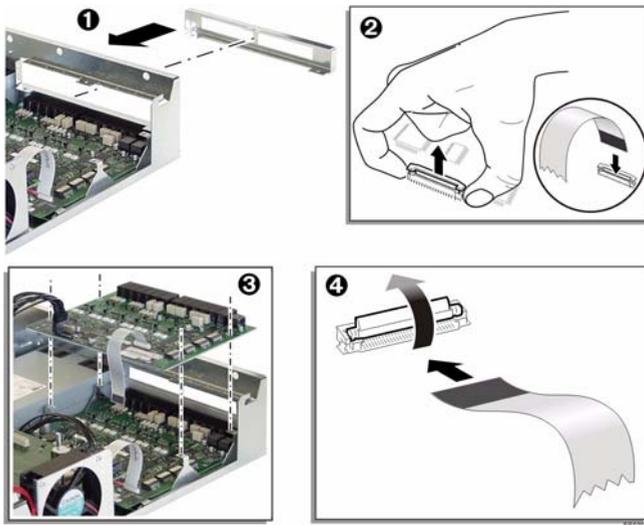

Figure 12: Screws and Standoffs on the Analog Option Board
4. Insert the replacement faceplate into the back of the controller and attach it with screws (1).
6. Attach the flex and power cables. To attach the flex cable, lift up on the tabs at the end of the connector to loosen it, insert the cable label side down, and then press down on the tabs to tighten connector (2).
7. Lower the AOB into place and attach it with the supplied screws (3).
8. Connect the other ends of the flex cable and power cable where indicated in Figure 12. The horizontal flex cable connector is hinged: flip up to loosen it, insert the cable, and then press down to tighten (4).